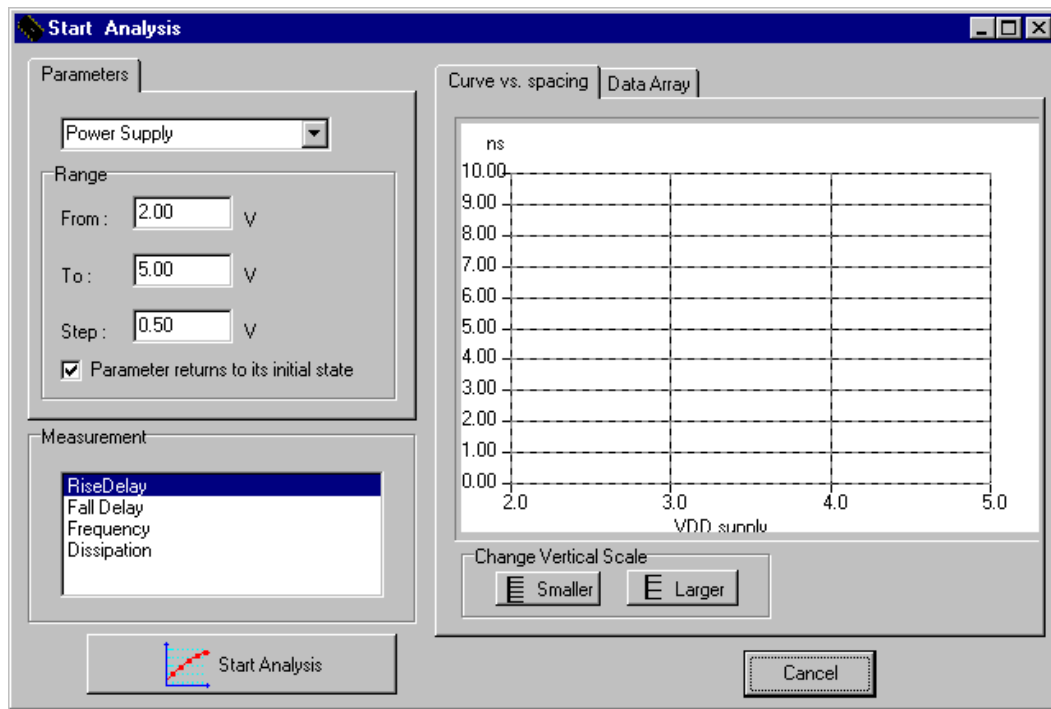

Fig. 12. The parametric analyzer
3. Click on « Start Analysis ». An iterative procedure conducts simulations and extracts the delay from the simulation for each value of VDD power supply as defined in the « Range » menu. The result in Fig. 12 shows that the gate delay decreases rapidly with the power supply.